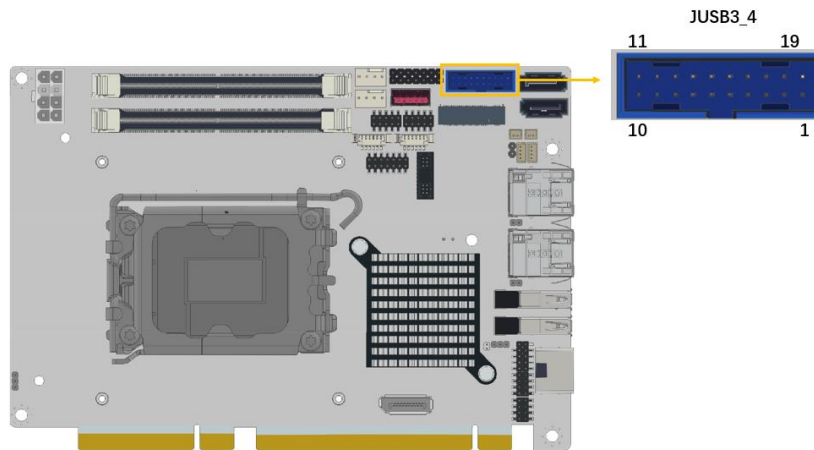

Figure 3-24: Internal USB 3.2 Gen 1 Connector Location
- CN Location:** See Figure 3-24